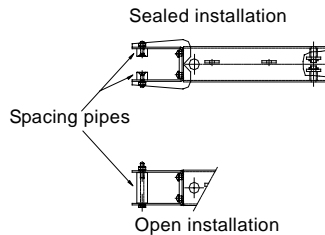

Fig. 11
12. Lift the complete mixer (motor bracket with motor) with the crane, slide it over the column profile tube and tighten the fixing screws. Check that the fixing screws and spacing pipes are fitted correctly and tightened, see fig. 11.